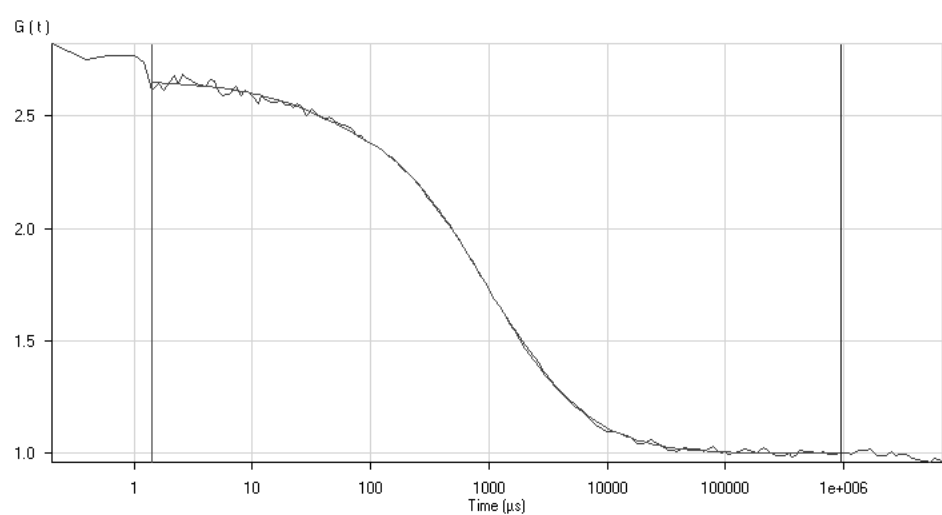
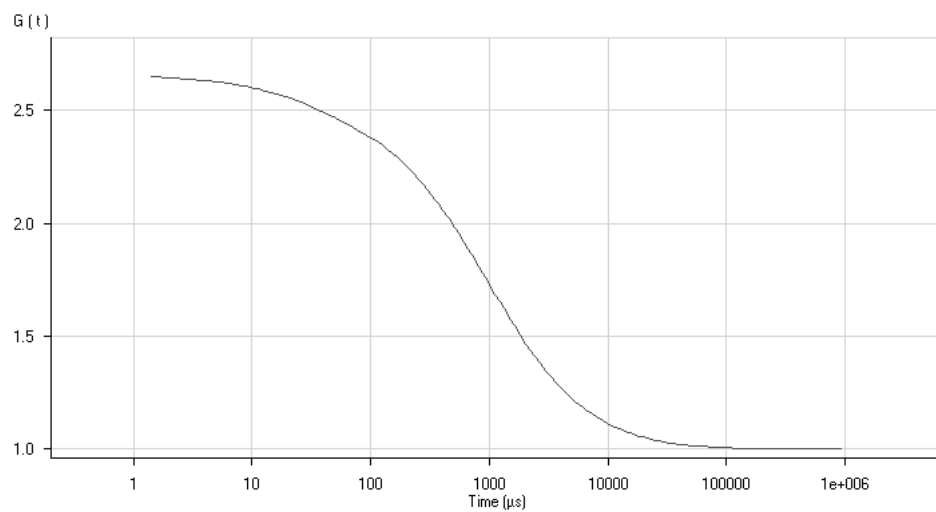

Fig. 3-109 The Correlation Curve window in normal display
Fig. 3-113 The Correlation Curve window in fit curve display ("View correlation curve" unchecked)
- Select **View correlation curve** will display the Correlation curve in addition to the Fit curve (see Fig. 3-109). If this option is not selected, only the Fit curve is displayed (see Fig. 3-113).